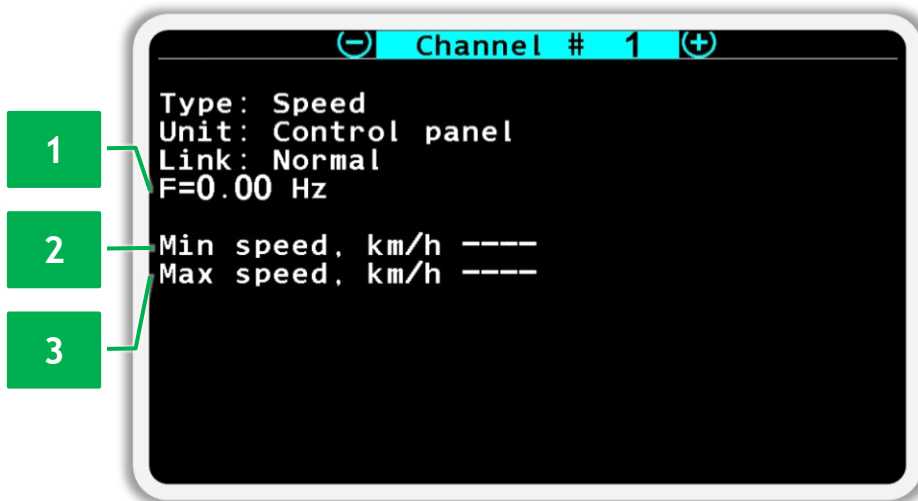

Figure 75 Speed sensor status view screen
- value of the current frequency of pulses from the movement speed sensor (see Figure 75 p.1);
- the value of the minimum permissible speed of movement (see Figure 75 p.2);
- the value of the maximum permissible speed of movement (see Figure 75 p.3);